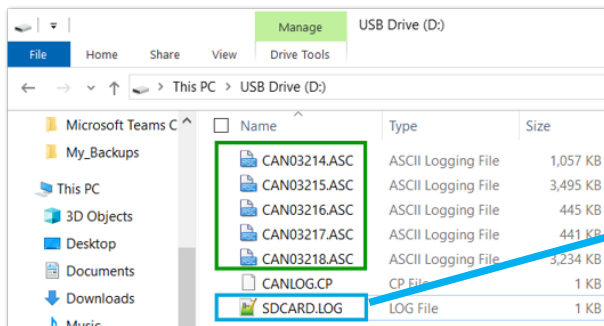

Figure 8: Flash drive root folder contents after transfer
12. **ENSURE** following (Figure 8 and 9):**NOTE:**